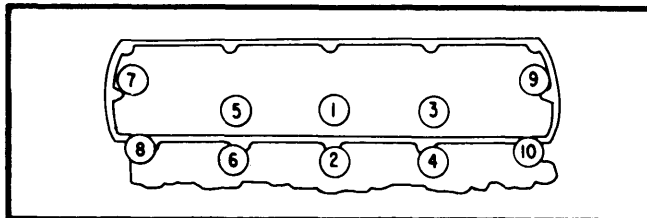

Fig. 2 Cylinder Head Tightening Sequence
**Installation** — Clean all gasket surfaces. Gaskets are composition type and must be installed WITHOUT sealer. The gaskets for the 4.3L (260") engine are installed with the contrasting color stripe facing up. The 5.0L (307") engine does not have a color stripe on gasket. Install cylinder heads. Dip head bolts in engine oil and install. Tighten head bolts in 2 steps in sequence shown. See Fig. 2.